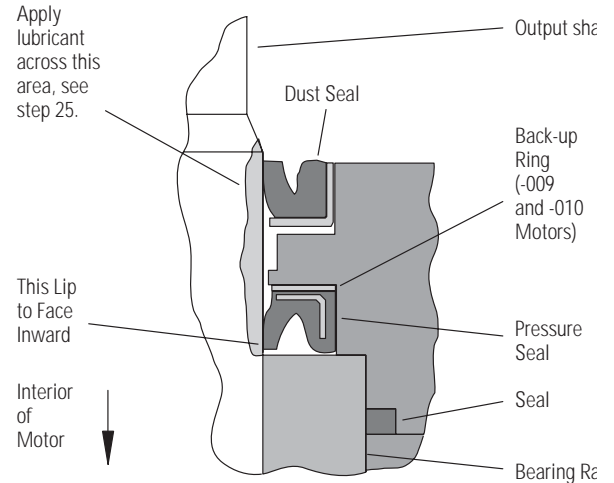

Figure 15
22. Install exclusion seal in flange, see Fig. 15. Press the dust seal into place carefully. To eliminate damage to rubber portion or distortion of metal container use a tool (flat-round face 35-41mm [1.37 to 1.62 inch] diameter) which provides proper guiding and positioning.
25. Before installing the flange and seal assembly over the shaft, place a protective sleeve or bullet over the shaft. Lubricate space between dust seal and pressure seal, as well as lips of both seals (see Fig. 15). Install flange. Rotate flange slowly while pushing down over shaft. Be careful not to invert or damage the seals.